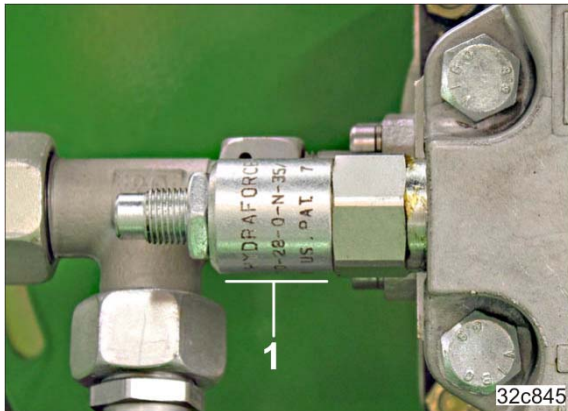

Fig. 159
- with round outer contour (Fig. 159/1),